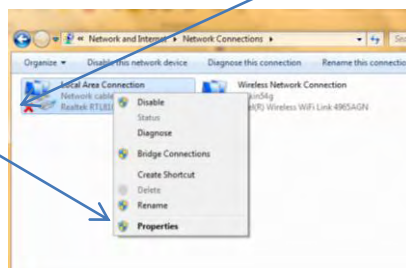

Fig 3
- d. When the Change adapter settings opens right click on "**Local Area Connection**" and click on "**Properties**" from the pop-up menu. (Fig 3)